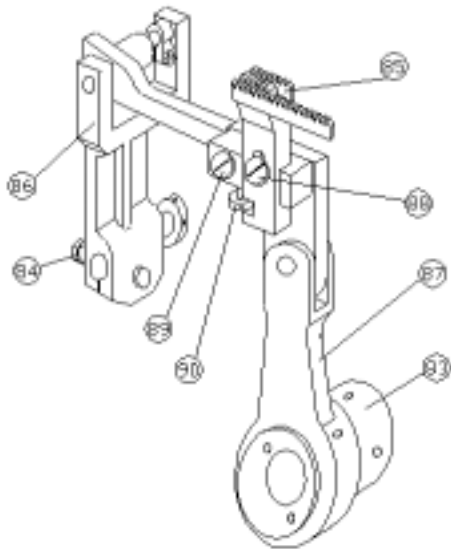
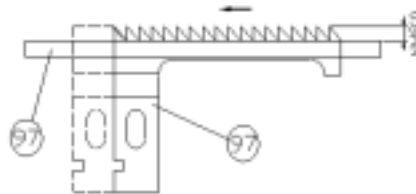

FIG.25
FIG.26
- (b) Loosen the screws of the feed dog lift eccentric (83) and the screws of the stitch-lengthening fork. Precisely true up the needle hole of the throat plate (28) with the needle, making sure that the throat plate is in an orthogonal position. FIG. 25.
- (c) Center the feed dog (85) in the throat plate which should be fixed beforehand, so that at the ends of its traverse the two ends of the feed dog are equidistant from the inner parts of the slots in the throat plate; to do this adjust the stitch-lengthening fork (86) and if necessary move the feed dog lift eccentric (83) along its axis so as to avoid off-center positions that could cause distortions in the movement. Tighten the screws of the feed dog lift eccentric and the stitch-lengthening fork. FIG. 25.
- (d) Loosen the clamping screws of the stitch-lengthener eccentric (91). Turn the hand-wheel to bring the needle bar to its L.C.D. Move the stitch lengthener eccentric radially to the position in which the feed dog does not move when the stitch lengthener support is moved by hand (80). Tighten the screws of the eccentric while keeping the connecting rod in line (92).
- (e) Turn the hand-wheel to bring the feed dog (85) to its highest point above the throat plate and adjust the two screws (88-89) to position the feed dog parallel to the throat plate.
- (g) The maximum height of the feed dog above the throat plate should be 0.8mm when the needle bar is at its U.D.C. FIG. 26.